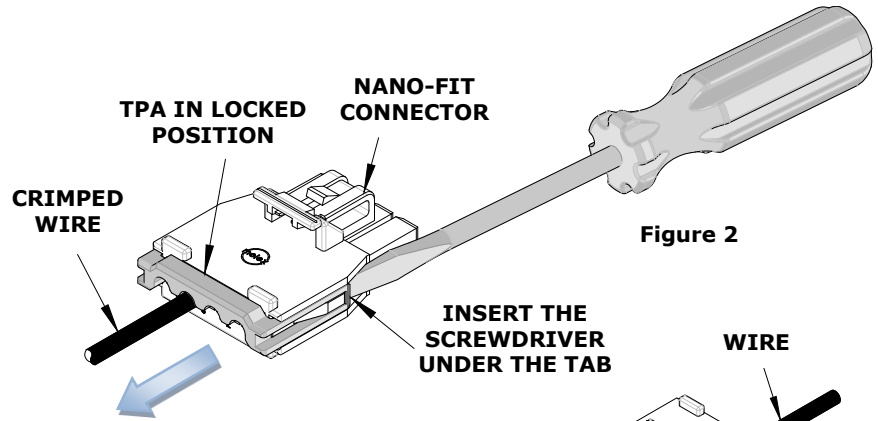

Figure 2
1. Using a small screwdriver, insert the flat edge under the tab of the TPA lock. See Figure 2.